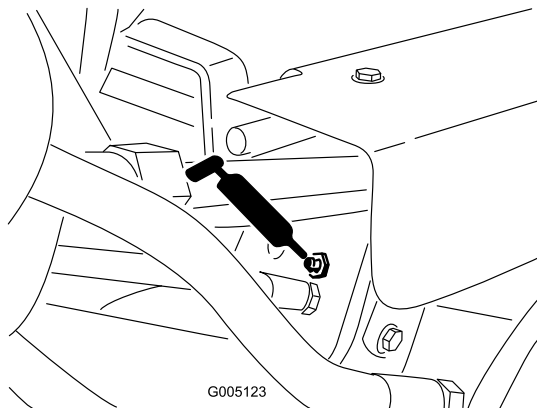

Figure 33
- Lift cylinders (3) (Figure 33)